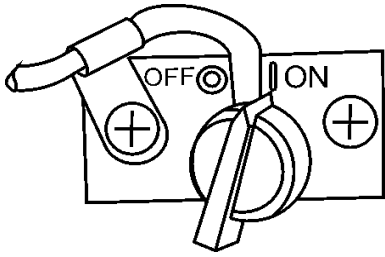

Figure 8. ON/OFF Switch (ON Position)
- Set the engine ON/OFF switch (Figure 8) to the "ON" position (start).